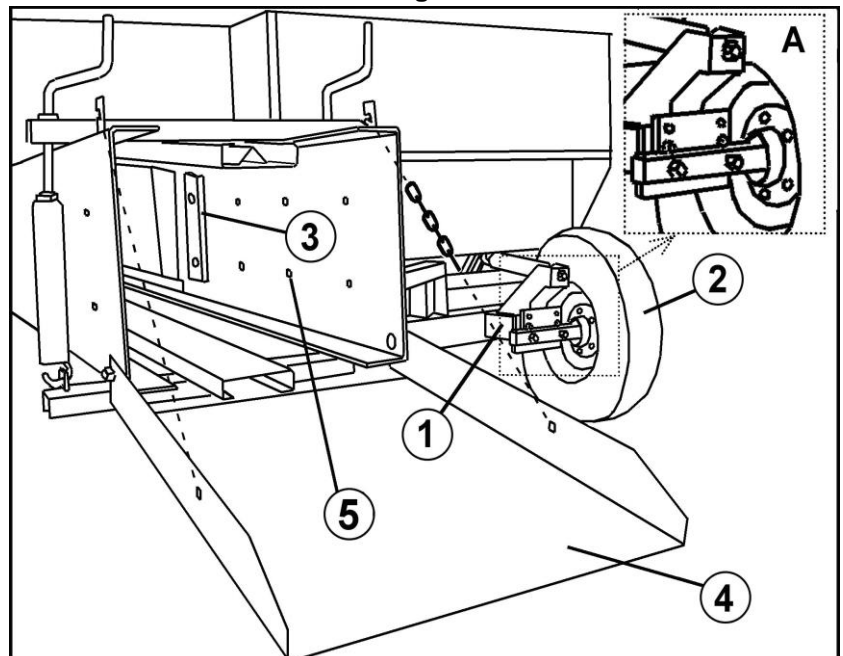

Fig. 25
1. Lower the bale unloading platform (n°4 fig. 25) and reduce the tension of the compression springs of the compression chamber using the handles 4 shown in Fig. 4.